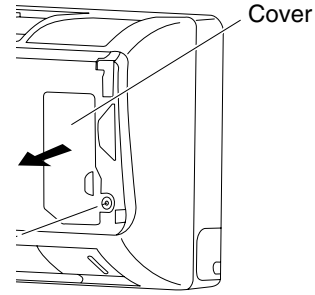

Fig. 3-31
- (1) Grasp both ends of the air intake grille, and remove it by opening toward the front and pulling it toward you.
- (2) Remove the screw on the right side cover plate and open the cover. (Fig. 3-31)